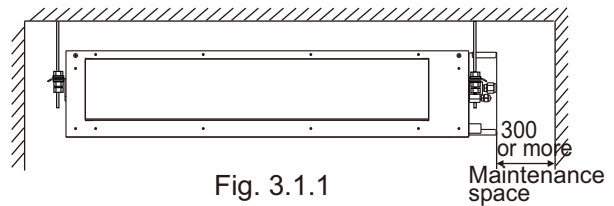
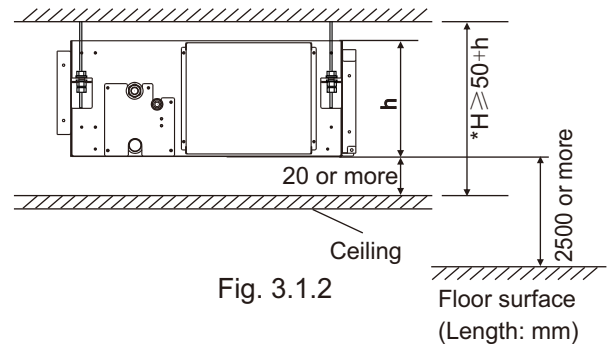

Fig. 3.1.1
Fig. 3.1.2
- Sufficient clearance for maintenance and servicing is ensured. (See Fig 3.1.1, Fig 3.1.2)